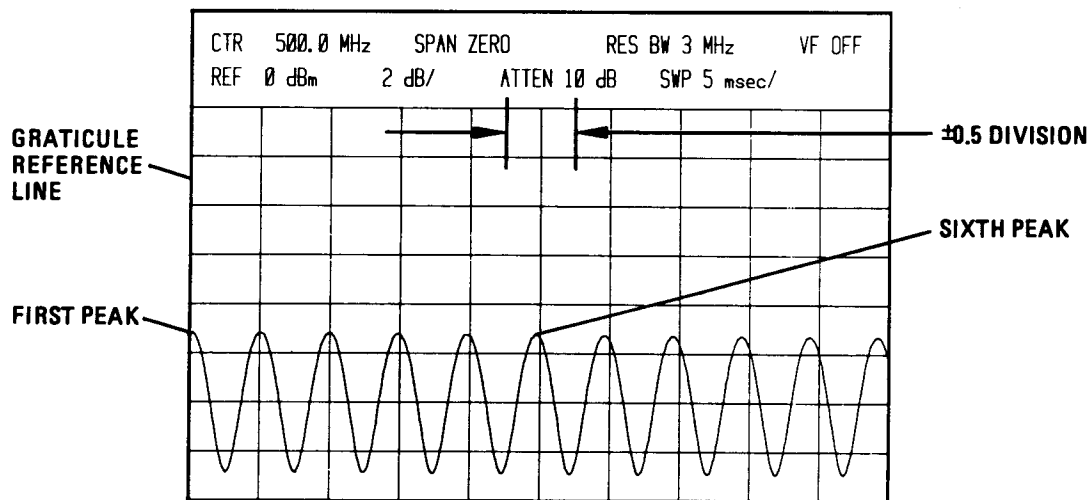

Figure 4-23. Sweep Time Accuracy, 5 mSEC/DIV
10. Use Table 4-21 to check sweep time accuracy for sweep times of 5 μ SEC through .1 SEC. For these sweep times, 10 sweeps will be displayed. Adjust TRIGGER LEVEL of spectrum analyzer to place a peak of sine wave on graticule reference line. Sixth peak from reference should be within ± 0.5 divisions of center graticule line. (See Figure 4-23 for an example of this display.)